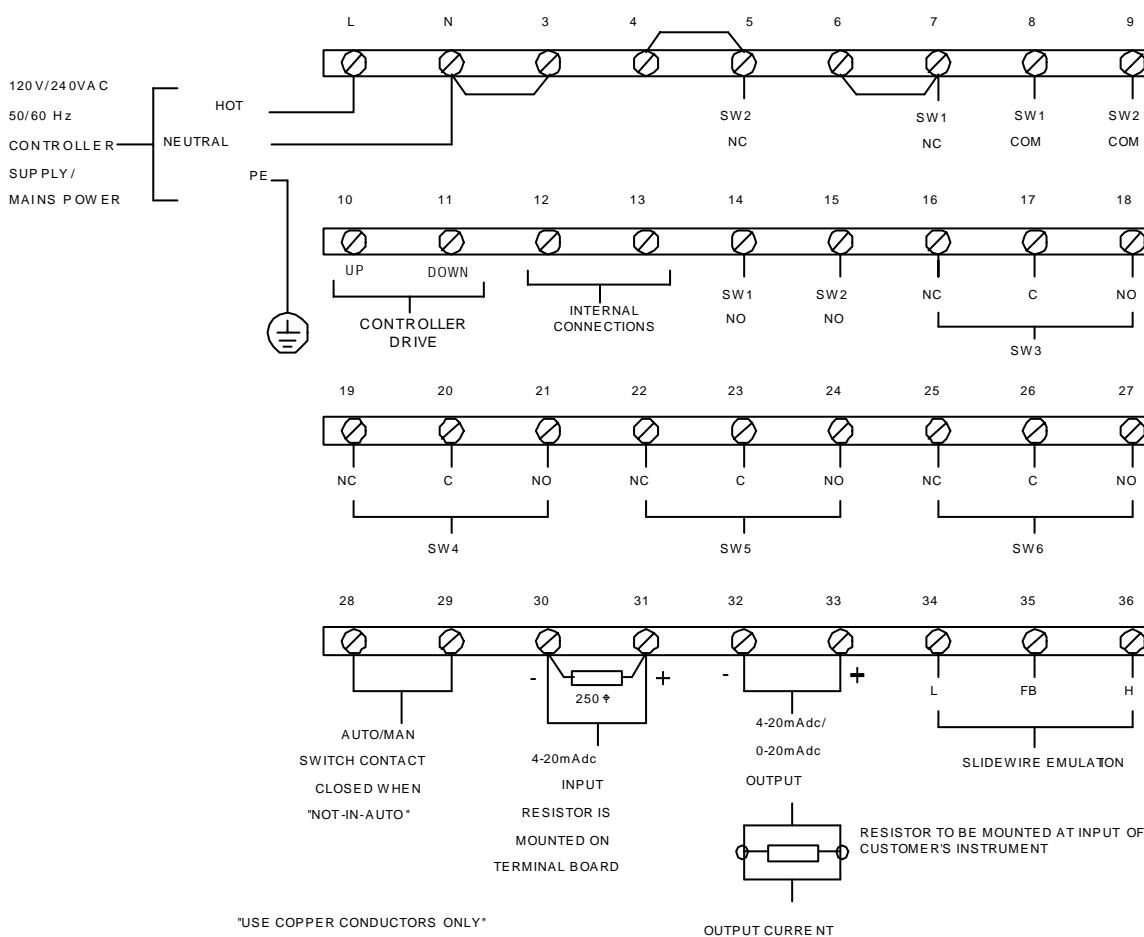
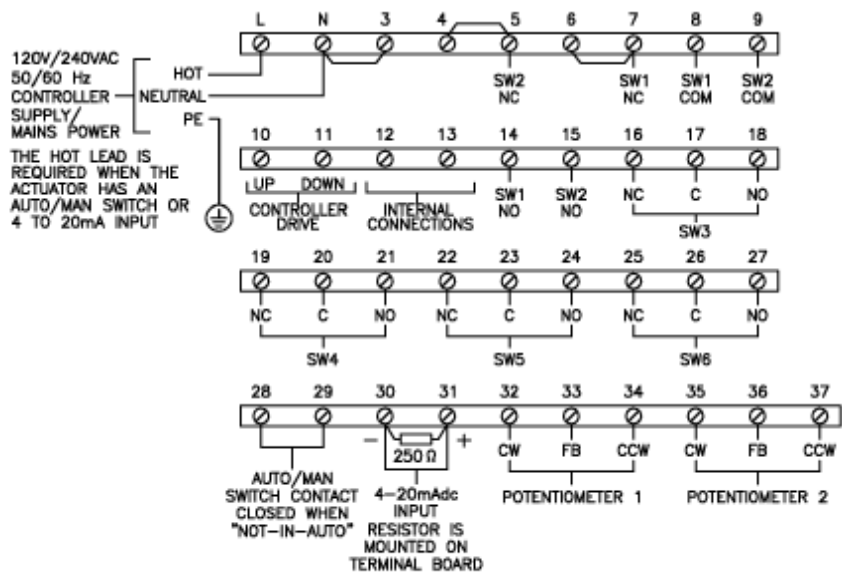
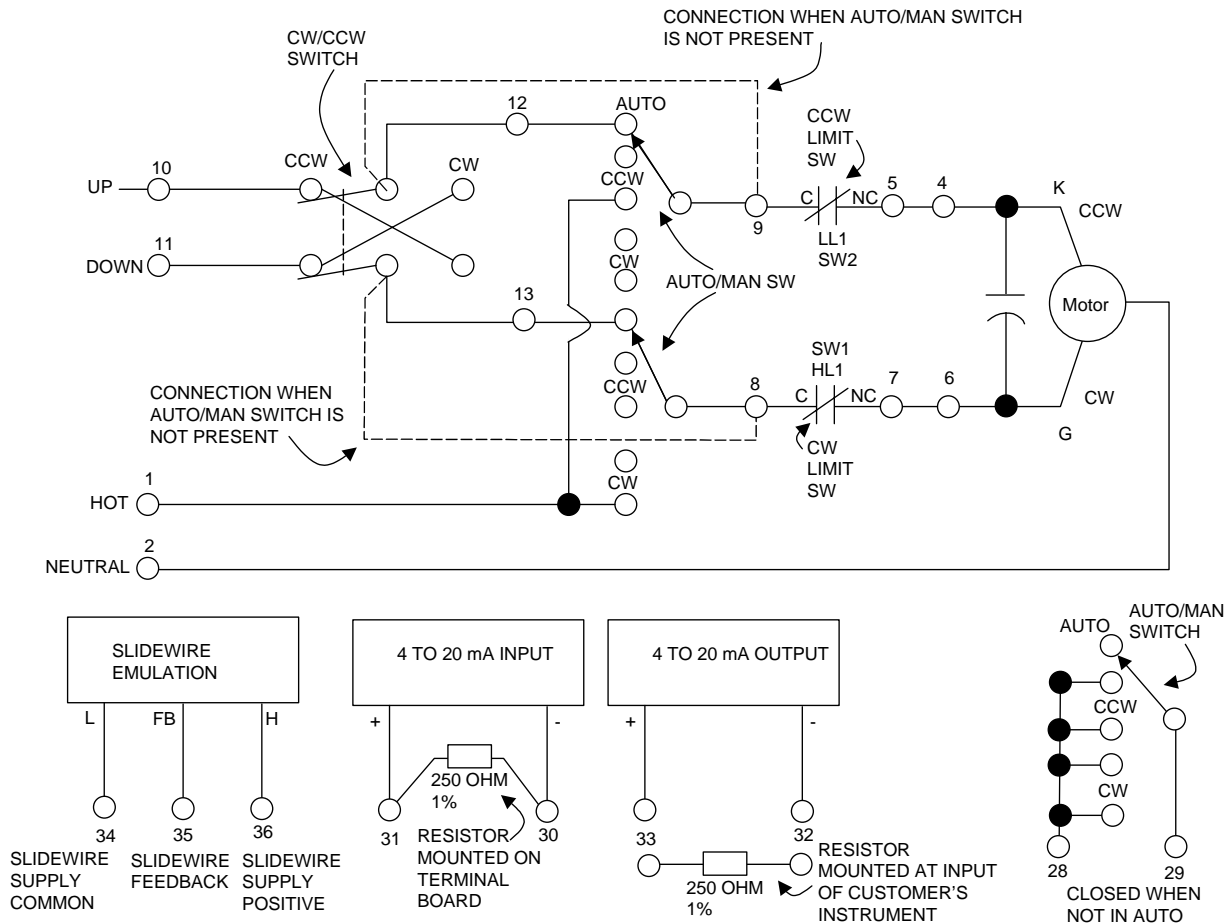

Figure 3-11 Customer Terminal Connections (Non-contact sensor)
Figure 3-12 Customer Terminal Connections (Film Potentiometer)
Figure 3-13 Slidewire Connections
Figure 3-11 and Figure 3-12 show all the available connections for the 10260A Series actuator (non-contact sensor).
For connections, refer to Figure 3-11 and Figure 3-13.
may be detected by the clicking sound or with a continuity tester connected to the terminals. Both the NC and NO contact states are available to the customer at the terminals (see Figure 3-11).
- Rotate the #2 limit switch operating cam to activate at this position. The switch roller arm should go from being in an up, not depressed state, to a depressed state as the cam is rotated in the direction of the shaft rotation going toward the limit position. This will cause the switch to go from NC to NO and turn off the power to the motor when the switch activates. Both the NC and NO contact states are available to the customer at the terminals (see Figure 3-11).
An actuated switch will have its NC contacts become open and its NO contacts become closed. Both NC and NO contacts are available to the customer on the terminal board (Figure 3-11).
- Rotate the #1 limit switch operating cam to activate at this position. The switch roller arm should go from being in an up, not depressed state, to a depressed state as the cam is rotated in the direction of the shaft rotation going toward the limit position. This will cause the switch to go from NC to NO and turn off the power to the motor when the switch activates. Switch activation may be detected by the clicking sound or with a continuity tester connected to the terminals. Both the NC and NO contact states are available to the customer at the terminals (see Figure 3-11).
- Rotate the #3 switch operating cam to activate at this position. The switch roller arm should go from being in an up, not depressed state, to a depressed state as the cam is rotated in the direction of the shaft rotation going toward the limit position. This will cause the switch to go from NC to NO when the switch activates. Switch activation may be detected by the clicking sound or with a continuity tester connected to the terminals. Both the NC and NO contact states are available to the customer at the terminals (see Figure 3-11).
- Rotate the #4 switch operating cam to activate at this position. The switch roller arm should go from being in an up, not depressed state, to a depressed state as the cam is rotated in the direction of the shaft rotation going toward the limit position. This will cause the switch to go from NC to NO when the switch activates. Both the NC and NO contact states are available to the customer at the terminals (see Figure 3-11).
Clockwise and counterclockwise rotation is the direction of the output shaft when facing the end of the shaft. As shown, clockwise rotation of the output shaft activates SW#1 (at 0% on left hand pointer scale) and CCW rotation activates SW#2 (at 100% on left hand pointer scale). Terminal numbers are next to circles (see Figure 3-11).